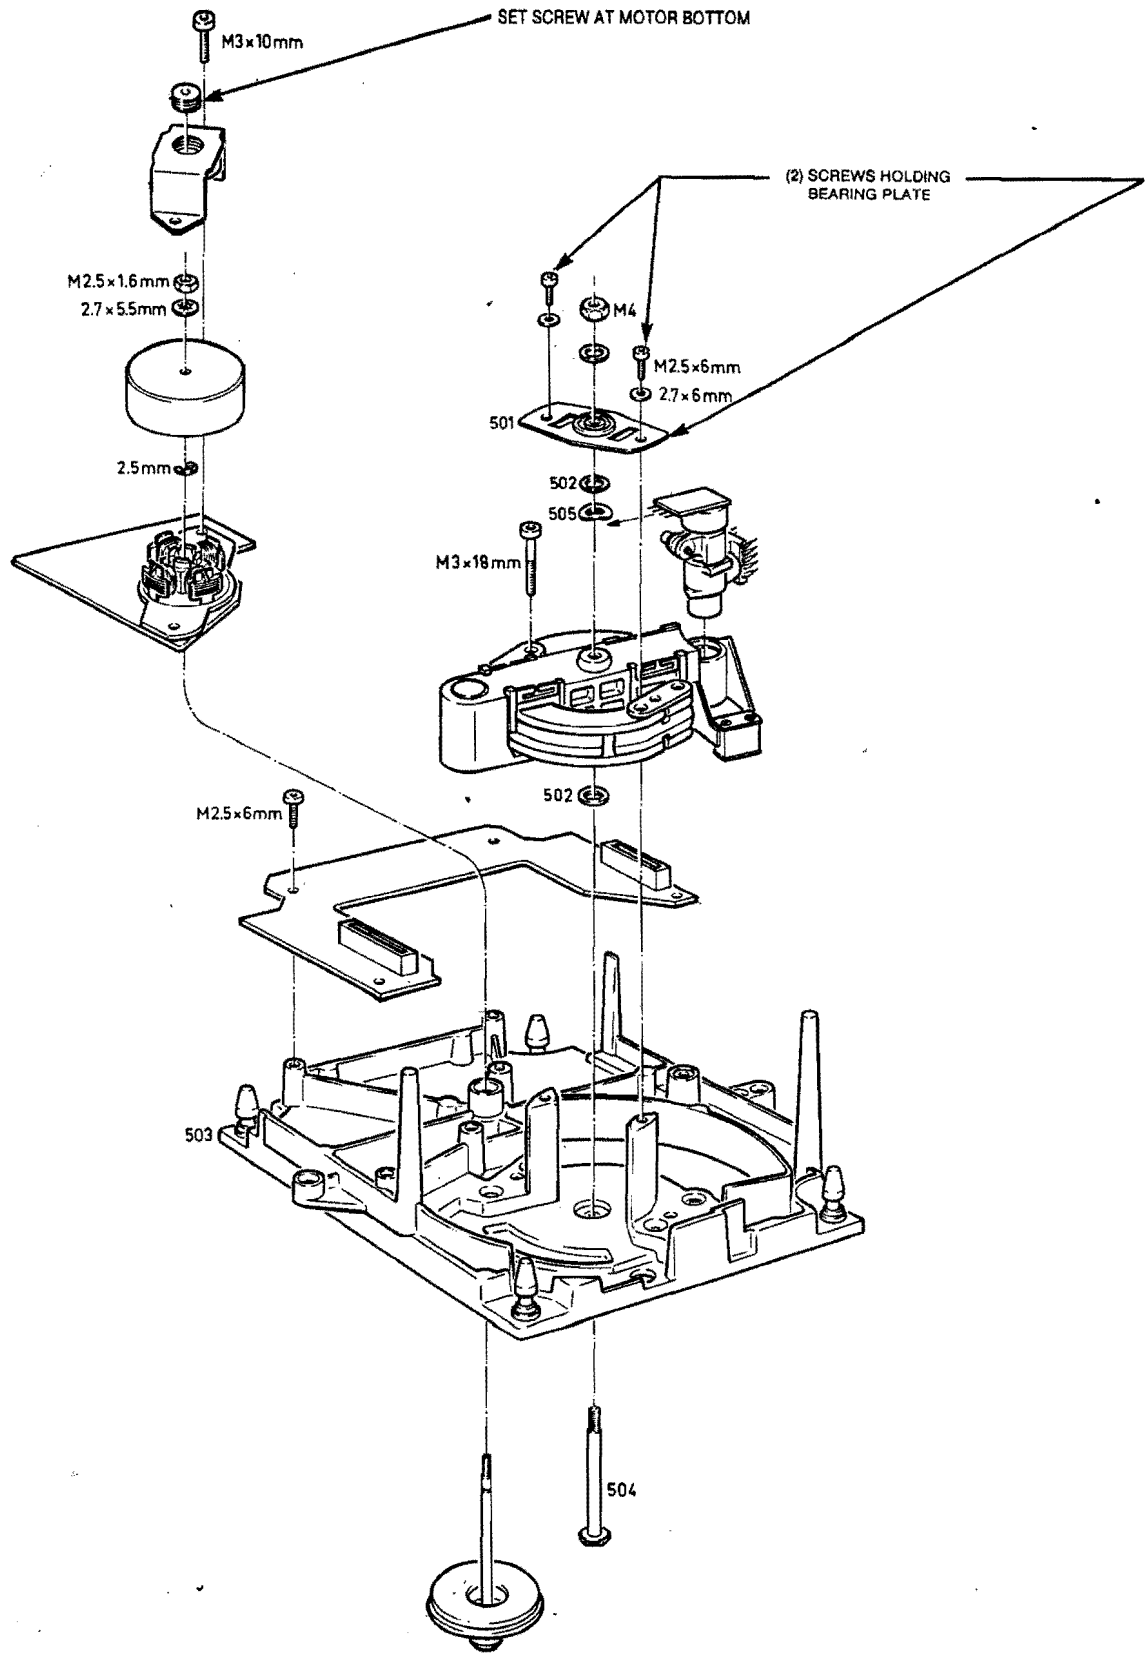
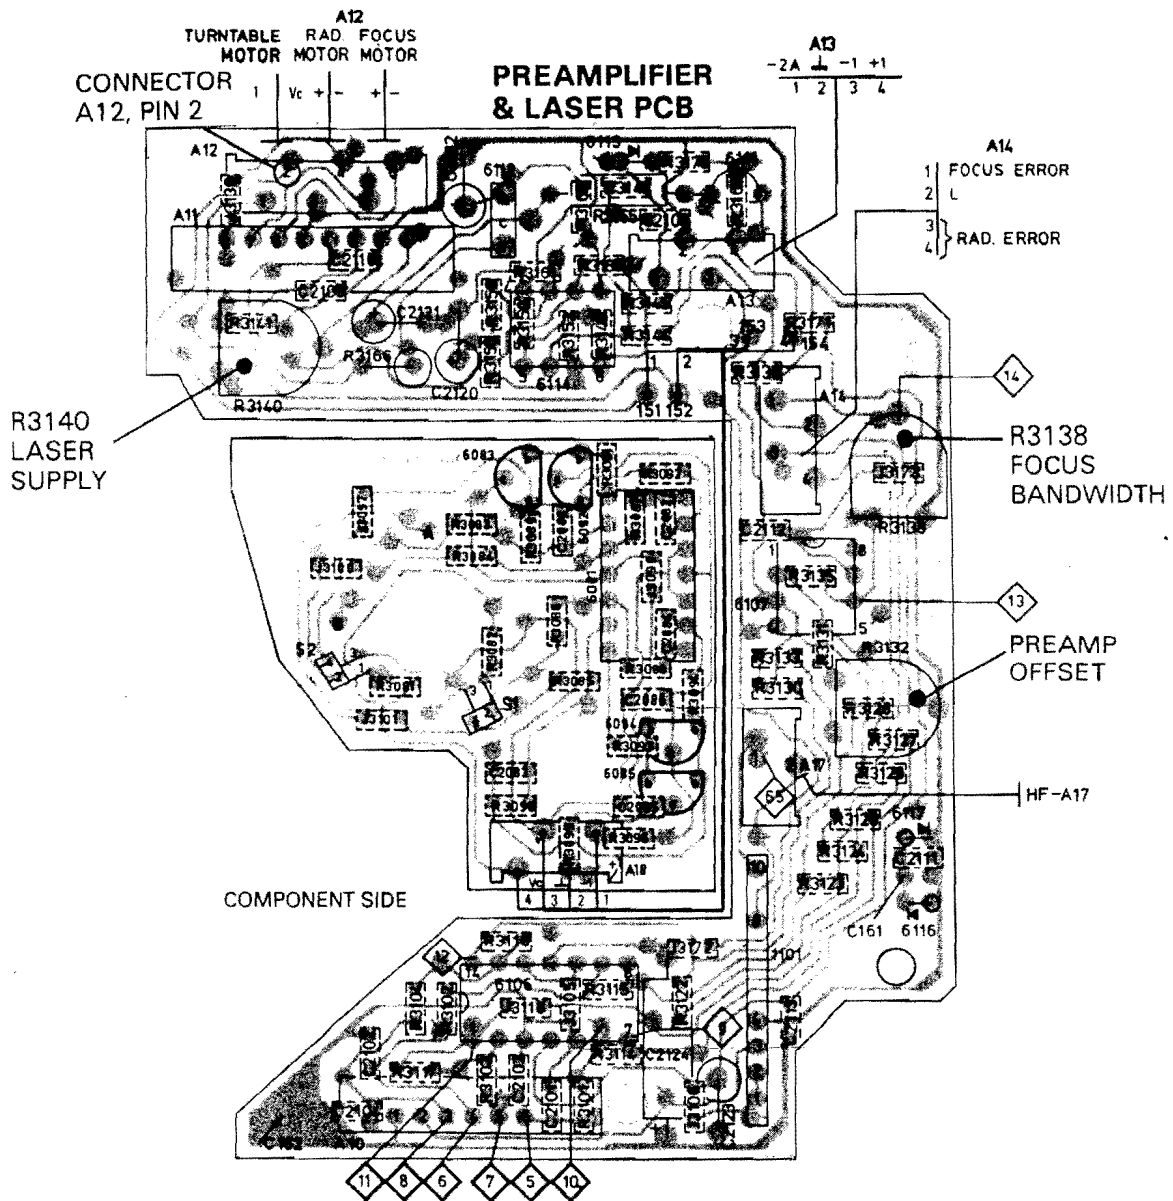
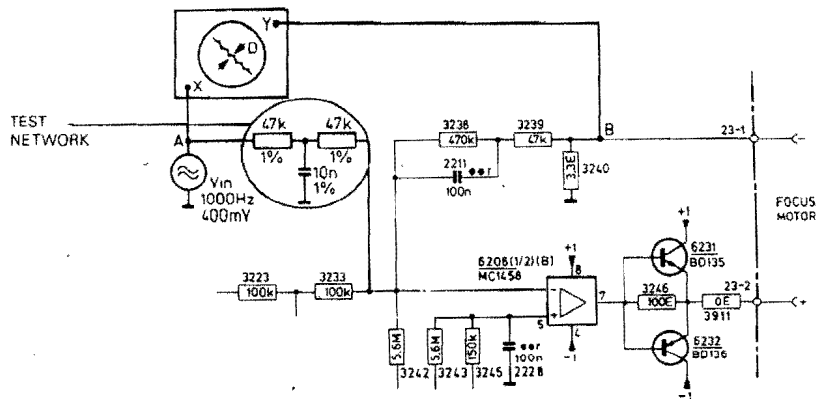
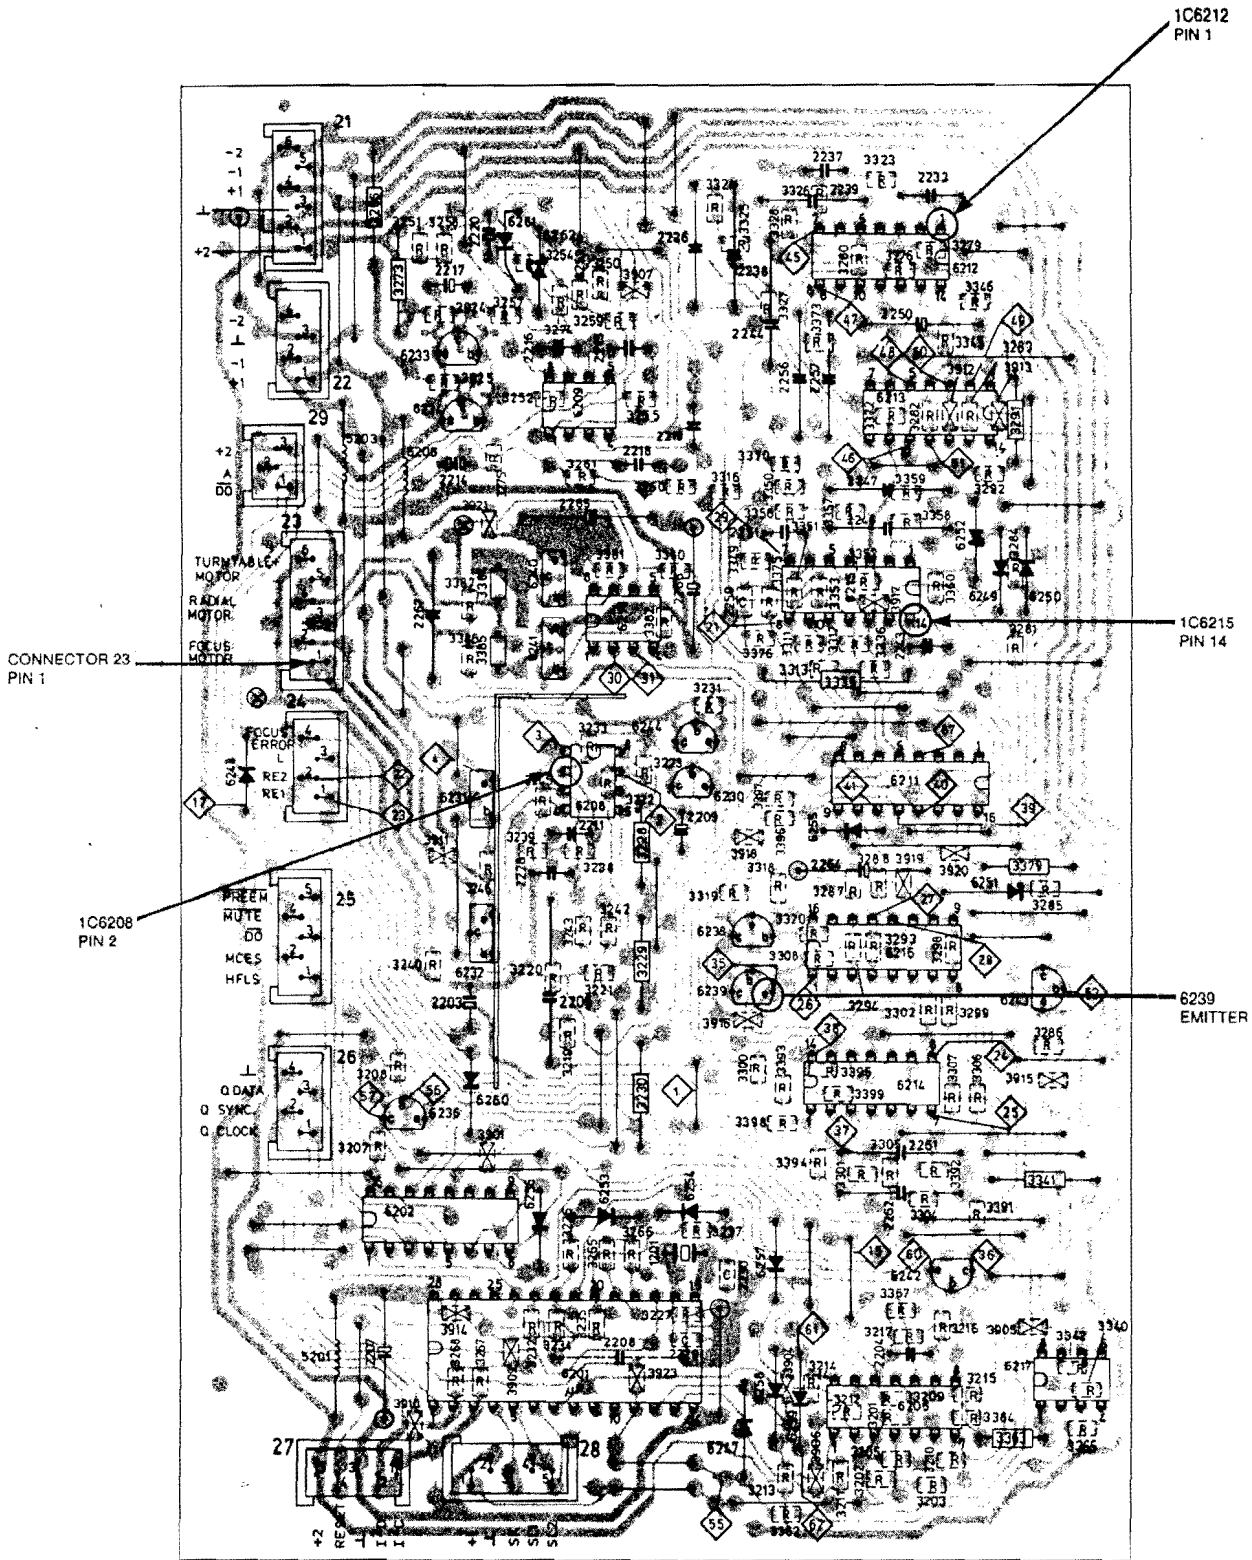

Fig. 3. Exploded View of Motor Mechanism
Fig. 4. Component Side of Preamplifier and Laser PCB
Figure 5. Adjustment of Focus Bandwidth
Fig. 7. Component Side of Servo PC Board
1. LASER PEN OPTICAL ALIGNMENT. Refer to figure 3 for adjustment location.
2. MOTOR FRICTION TEST. Refer to figure 4 for the connection location.
4. PREAMP OFFSET ADJUSTMENT. Refer to figure 4 for the adjustment location.
5. TURNTABLE HEIGHT. Refer to figure 7 for the measurement location and figure 3 for the adjustment location.
6. LASER SUPPLY ADJUSTMENT. Refer to figure 7 for the measurement location and figure 4 for the adjustment location.
7. **FOCUS BANDWIDTH ADJUSTMENT.** Refer to figure 5 for the schematic of the adjustment procedure, figure 7 for the measurement locations, and figure 4 for the adjustment location.
8. **TEST OF RADIAL AGC AND OFFSET CIRCUITS.** Refer to figure 7 for the measurement locations.